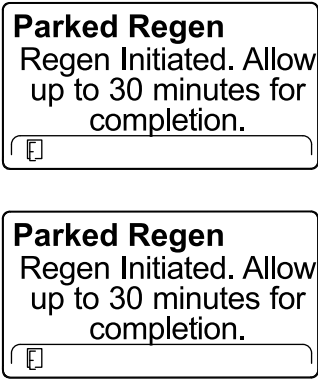

Figure 31
6. The InfoCenter displays the time to complete message (Figure 31).